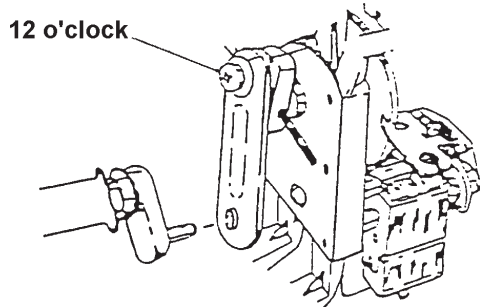

Figure 10
1. Make sure the hole through the rear shaft is in a horizontal plane. (If a pin were inserted in the hole, the pin would be horizontal). See Fig. 10.
2. Slide the Drive Arm (with linkage attached) on the rear shaft as shown. See Fig. 10.
- NOTE: When the screw holding the Linkage Arm to the Drive Arm is at the 12 o'clock position (See Fig. 10), the Lock Tab will be at the 6 o'clock position (See Fig. 11).